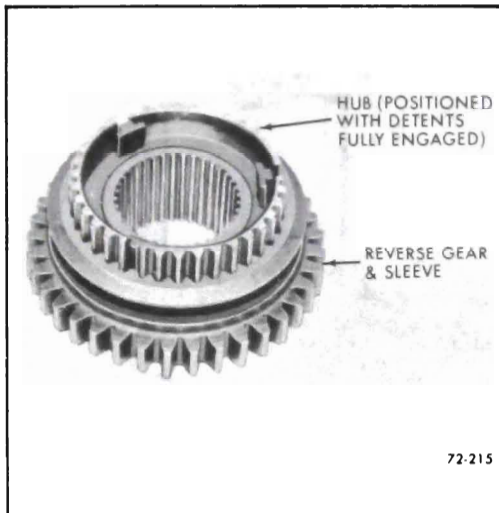

Figure 72-215 - Sliding Sleeve Into Hub
4. Slide sleeve onto hub until the detent is engaged. See Figure 72-215.